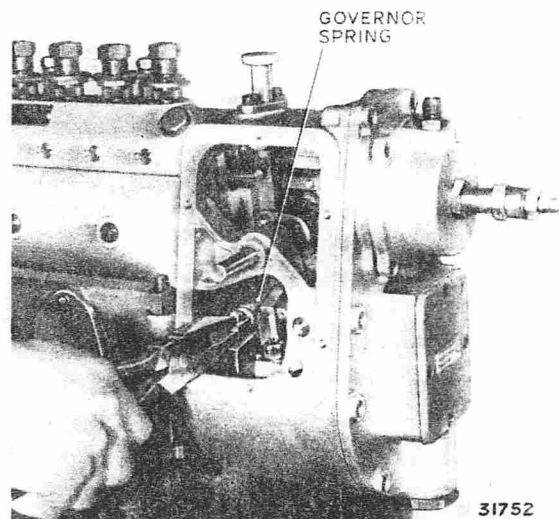

FIG. 49. RELEASING GOVERNOR SPRING
5. Release the governor springs (Fig. 49).